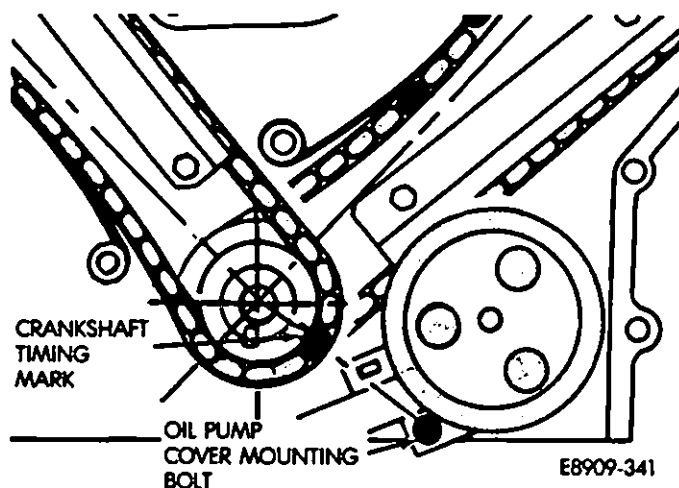

Fig. 19—Crankshaft Alignment
(12) Rotate the crankshaft approximately 150° until the timing mark on the crankshaft middle sprocket is aligned with the lower oil pump cover mounting bolt (Fig. 19).